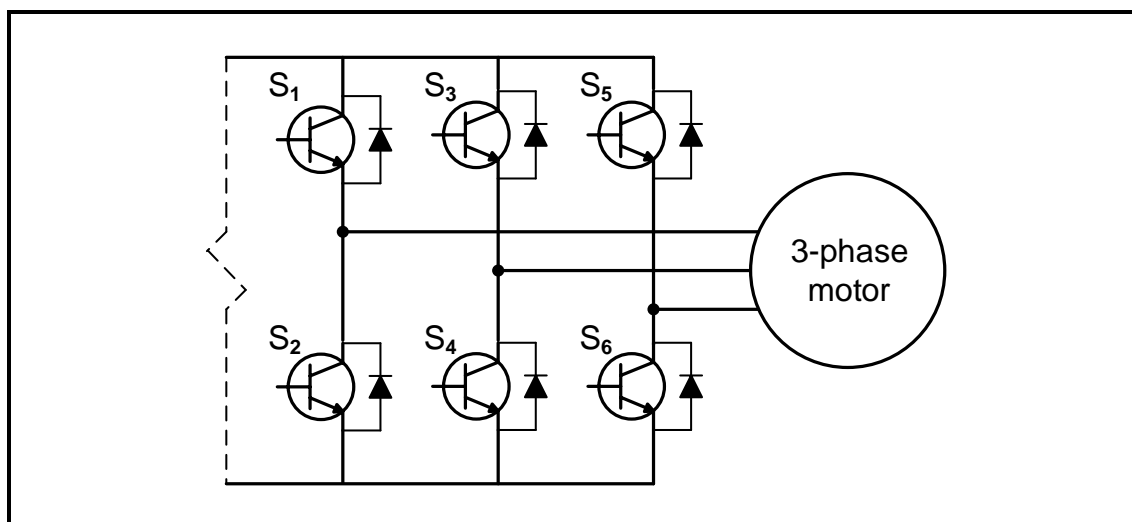

FIGURE 7.8: INVERTER STAGE OF A VSD
- 7.8 FIGURE 7.8 below shows the inverter stage of a VSD using IGBT transistors as semiconductor switches to drive a three-phase delta-connected motor. Answer the questions that follow.